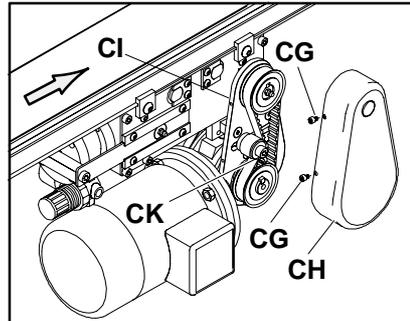

Figure 25
Disconnect power. Remove the screws (CG of Figure 25) securing the belt guard (CH) to the back guard plate (CI). Remove the belt guard (CH). Before proceeding, check the timing belt for wear. Replace belt if worn.
Tighten the M8 x 40 mm socket head cap screw (CK of Figure 25) with 24 Nm of torque.